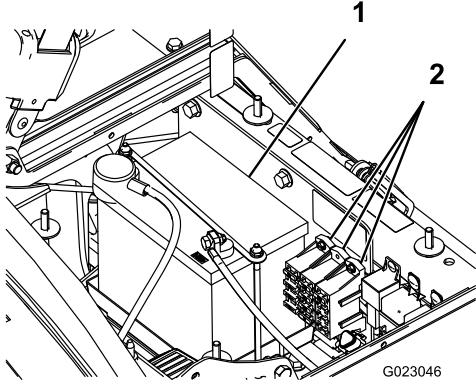

Figure 32
There are 2 fuse blocks and 1 empty slot in the electrical system. They are located beneath the seat (Figure 32).
- The battery is located on the right hand side of the machine behind the pump (Figure 32).
- Remove the battery retainer and fasteners (Figure 32).
- Install the battery retainer and secure it with the fasteners you removed previously (Figure 32).
- Install the battery cover and secure it with the 2 knobs (Figure 32).
1. Loosen the knobs on the sides of the battery box and remove the battery cover (Figure 32).